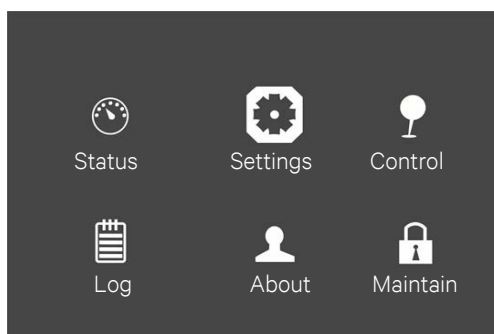

Figure 2-33 Main menu screen
a) At main menu screen, press the or key to select 'Settings', and press the key to enter the interface shown in Figure 2-33